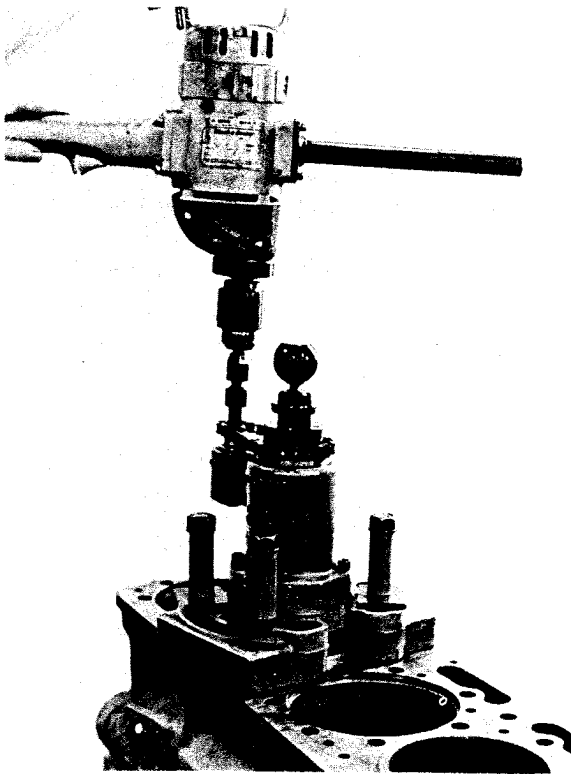

Fig. 1-30, (N101127). Boring tool installed
10. Install tool in counterbore, lower unit into counterbore with tapered centering ring engaging counterbore. Fig. 1-30.